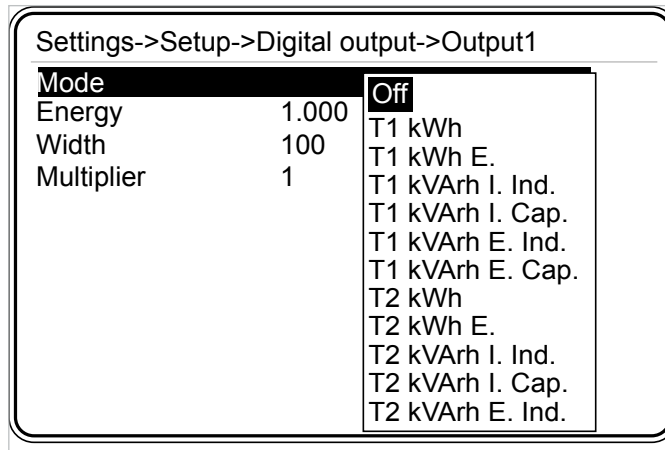

Fig. 3-36 Output 1 Menu
**Mode:** Press up and down keys to navigate between digital outputs. Press OK on the desired output, and options seen in Fig. 3-36 will appear. Any of them can be assigned as output1 operating mode.